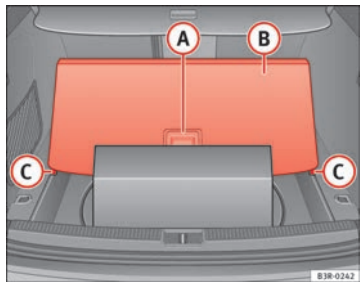

Fig. 123 Floor panel raised
- Take hold of handle **(A)** ⇒ Fig. 123, lift the floor panel **(B)** and line up the bottom corners of the floor panel with the recesses **(C)**.
- Take hold of the handle **(A)** ⇒ Fig. 123 and fold out the floor panel as far as the rear backrest.
Small items can also be stored **under** floor panel **(B)** ⇒ Fig. 123.